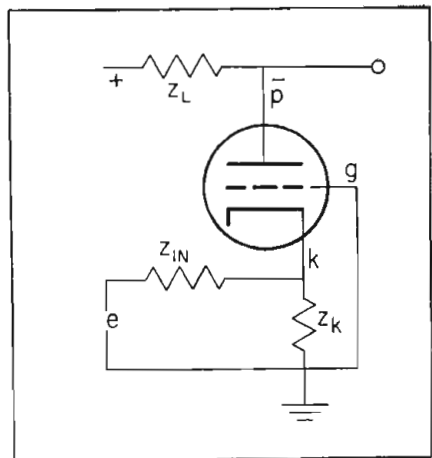

Fig. 4: Grounded grid type amplifier circuit
The equation of operation (Fig. 4) of the grounded grid amplifier is shown in (18) together with the grid-cathode voltage (19) and the